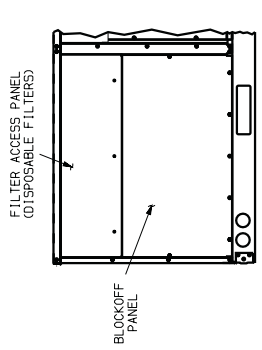
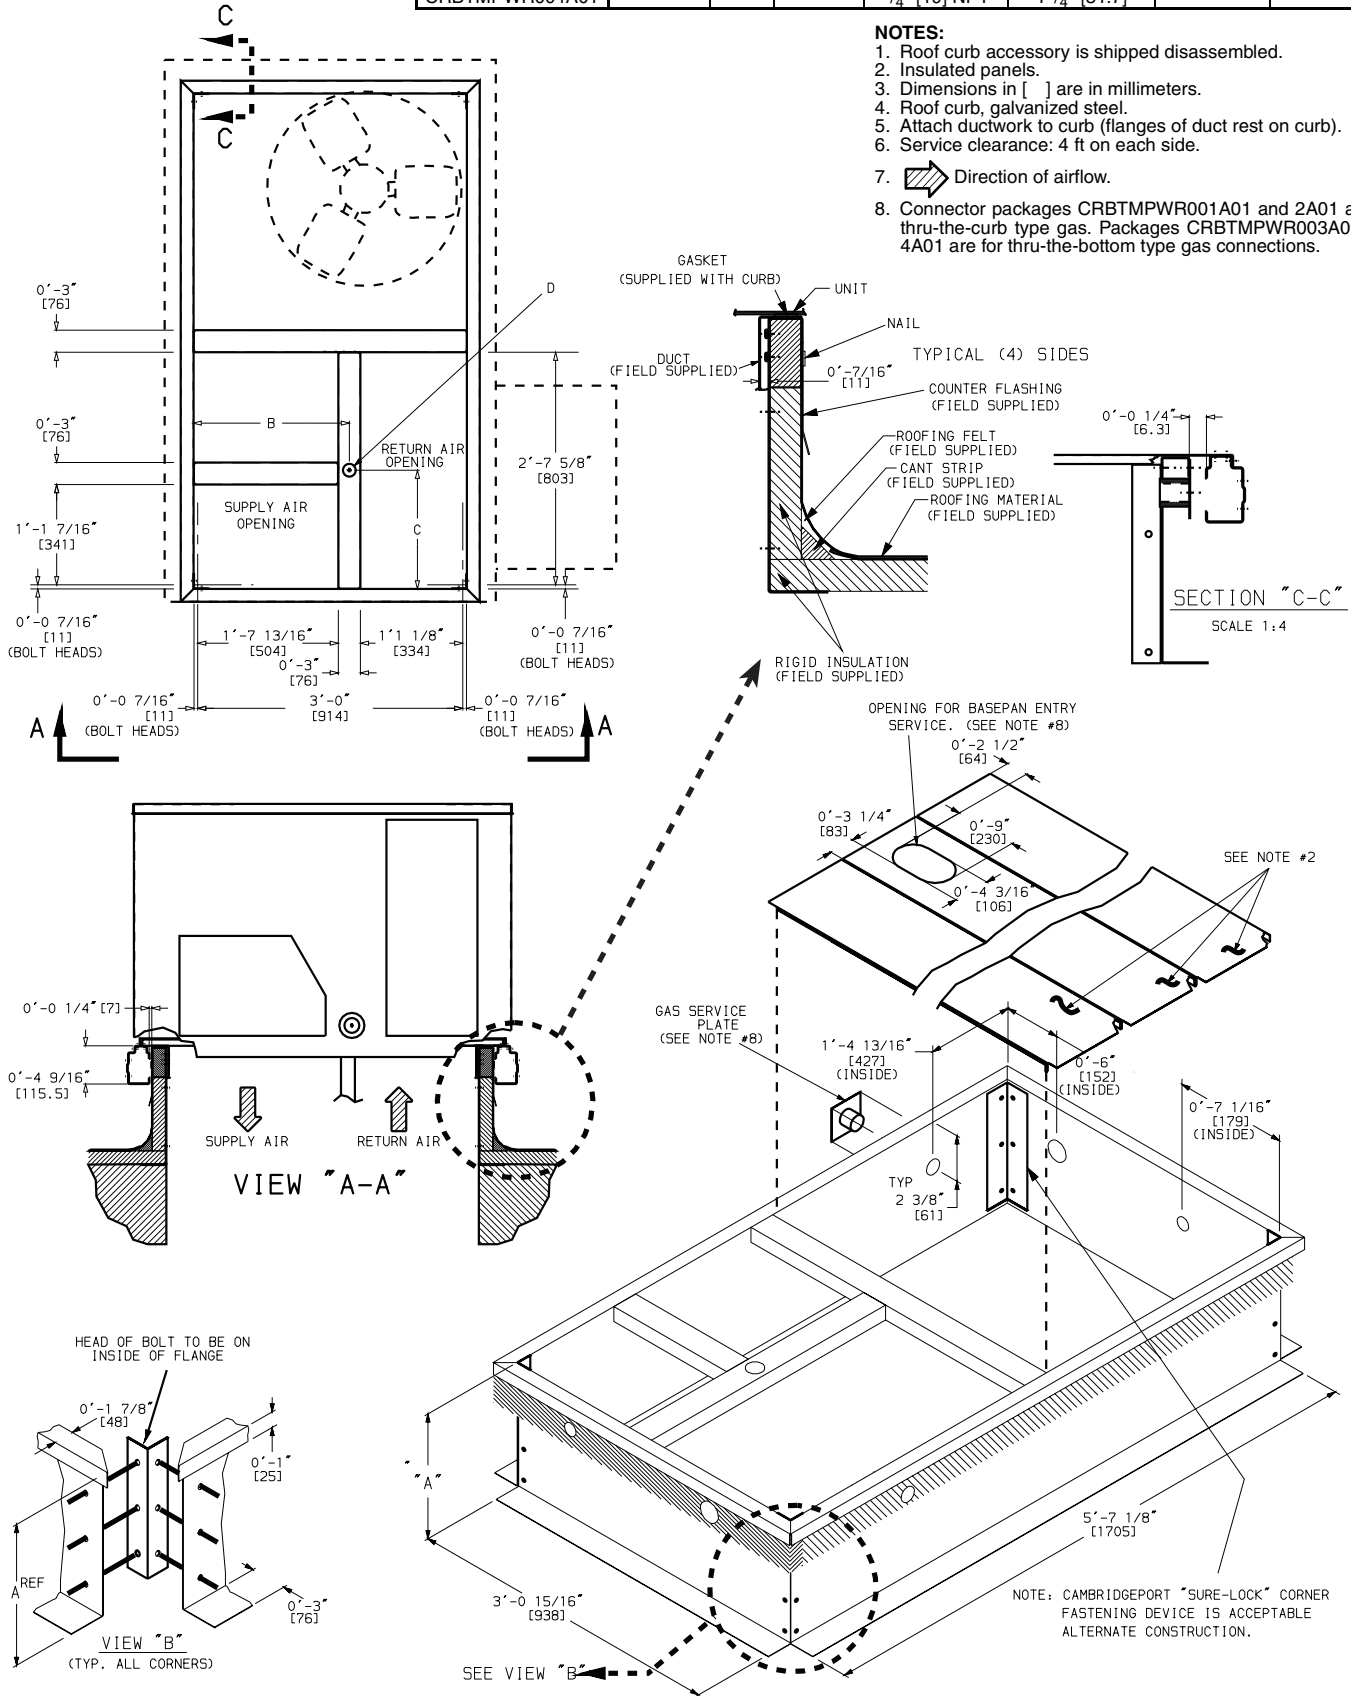

Fig. 1A — Base Unit Dimensions — 580F036-072
Fig. 3 — Roof Curb
1. Read and become familiar with these installation instructions before installing this unit (Fig. 1A and 1B).
Lifting holes are provided in base rails as shown in Fig. 1A and 1B. Refer to rigging instructions on unit.
Maintain clearance around and above unit to provide minimum distance from combustible materials, proper airflow, and service access. See Fig. 1A and 1B. A properly positioned unit will have the following clearances between unit and roof curb: $1/4$ -in. clearance between roof curb and base rails on each side and duct end of unit; $1/4$ -in. clearance between roof curb and condenser coil end of unit. (See Fig. 3, section C-C.)